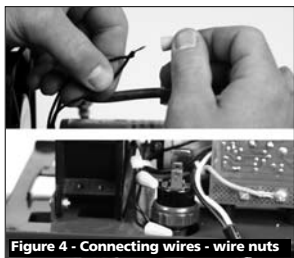
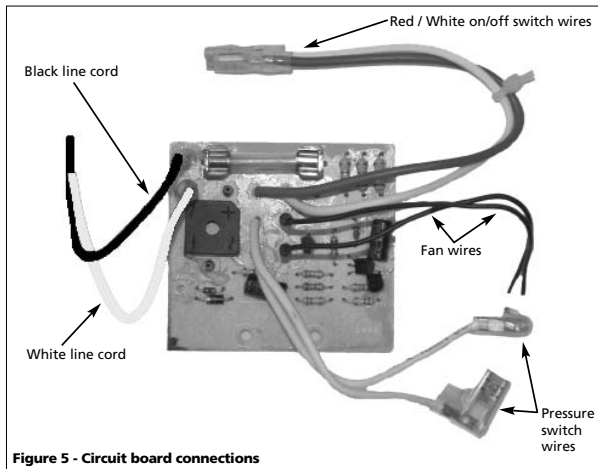

Figure 4 - Connecting wires - wire nuts
Figure 5 - Circuit board connections
- Reattach fan wires to circuit board. For units with fan wires that do not have pin connectors, connect the short fan wires provided in the kit to existing fan wires using two wire nuts provided in the kit (Figure 4). Connect both black wires to circuit board of replacement motor unit (Figure 5).
pin connectors, connect both black wires to circuit board of replacement motor unit (Figure 5). *It does not matter which fan wire you connect to each circuit board pin.*
- Reattach black and white line cord wires to circuit board. For units with line wires that do not have pin connectors, connect the short white line wire provided in the kit to existing white line wire using wire nut provided in the kit (Figure 4). Connect the short black line wire provided in the kit to existing black line wire using wire nut provided in the kit (Figure 4). Connect both line wires to circuit board of replacement motor unit (Figure 5).
For units with line cord wires that do have pin connectors, connect both line wires to circuit board of replacement motor unit (Figure 5). Reattach green ground wire from line cord to circuit board with Phillips screwdriver using screw retained in Step 7.